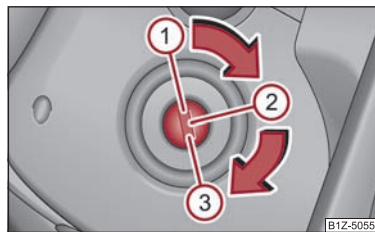

Fig. 112 Ignition lock positions
- The engine can be switched off by turning the ignition key into position ① ⇒ page 104, fig. 112.